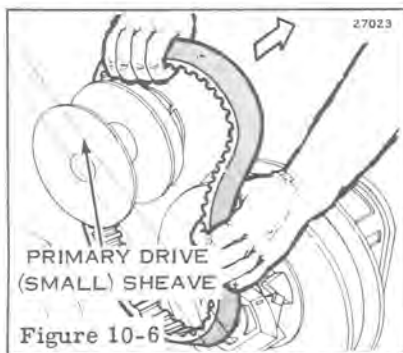

Figure 10-6
- Move belt from around primary drive, Figure 10-6.